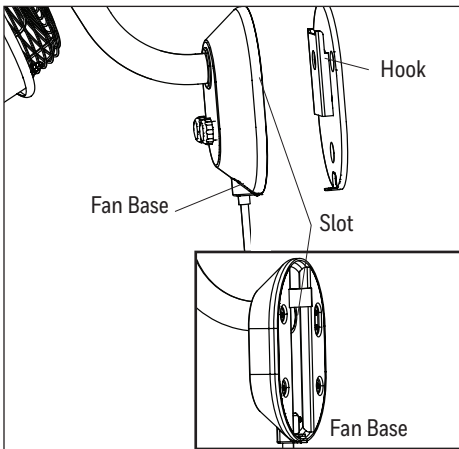

Figure 1.4
4. Hang the slot in the base of the fan on the hook preassembled to the mounting bracket (Figure 1.4).